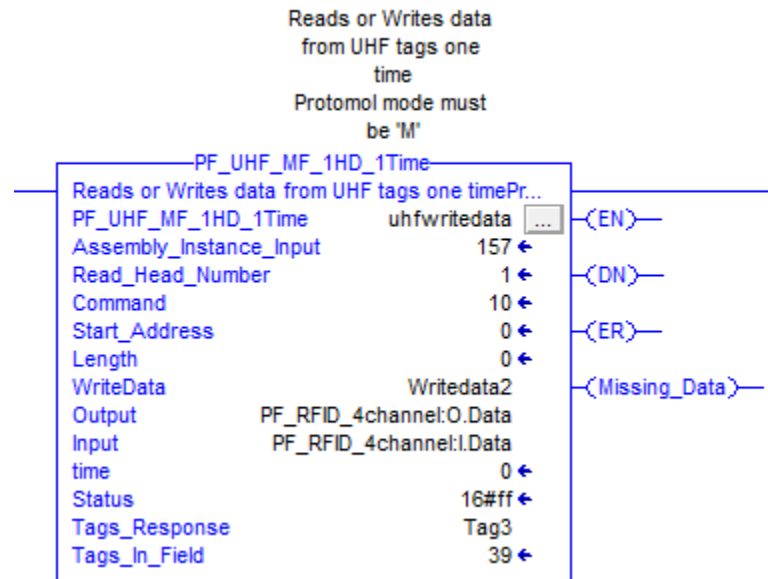

Figure 18: Single Read/write add-on instruction
**Tags\_Response** (USER\_Data\_PF[40]) - This is the location where all read tags are placed. This is a user defined variable that contains a lot of information for each tag. See Figure 18.